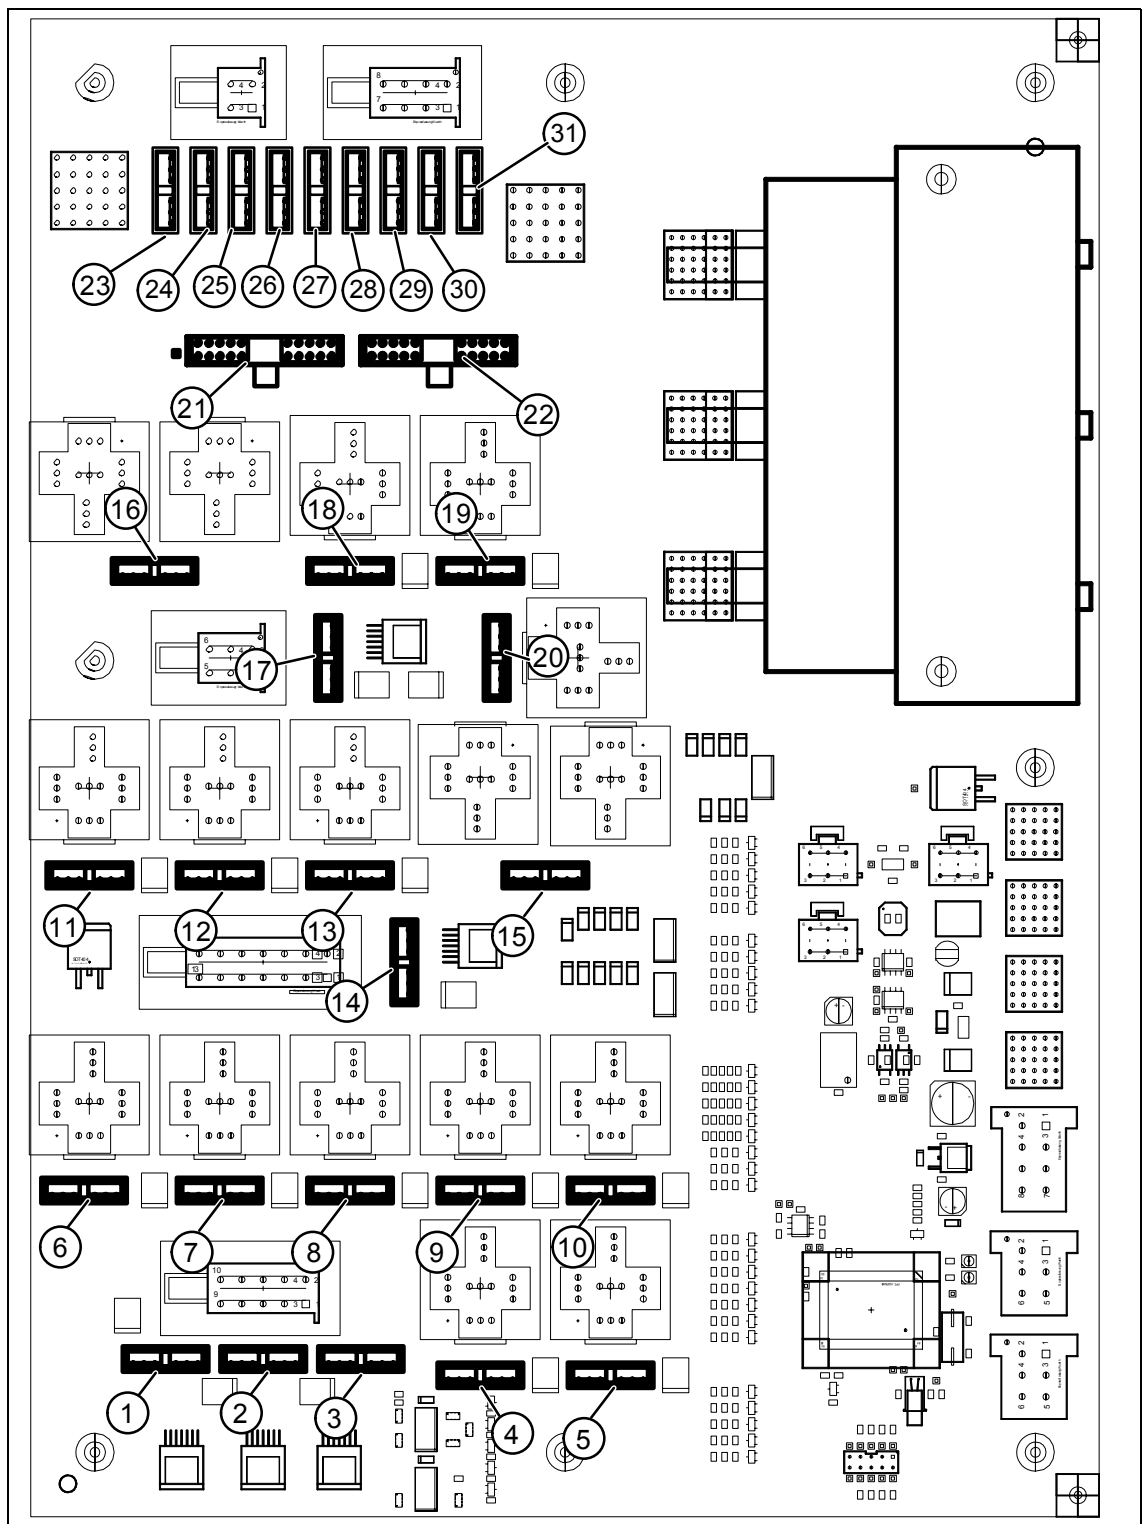

Fig. 11 Overview of power unit - micro fuses
**Legend for Fig. 11 "Overview of power unit - micro fuses"**